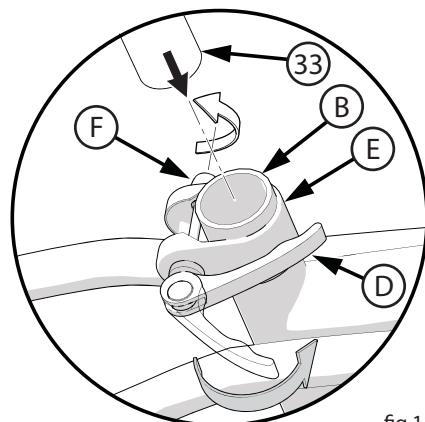

fig 11
### Tighten the quick release lever (fig 11):
- Open and close the Quick Release Lever with one hand while you turn the Adjusting Nut (F) with the other hand (**fig 11**).
- Push the Quick Release Lever to the “close” position (**fig 11**).
- When in the “close” position, make sure the Quick Release Lever lays against the Seat Post Clamp (E).